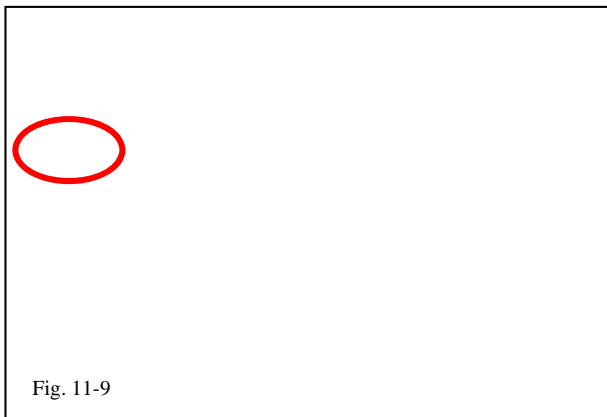

Fig. 11-9
- (l) Select “**DATA LIST**” to view and confirm the TPMS ID numbers have been correctly registered (Fig. 11-9).